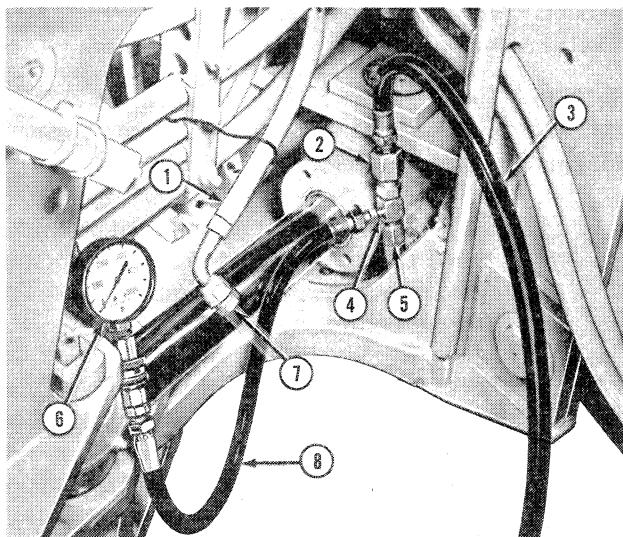

Figure 24
4. To check the R.H. swing cylinder cushion valve, as viewed from the operator's seat, disconnect the L.H. swing cylinder hose (1), Figure 24, at the rod end port of the L.H. swing cylinder. Cap the hose as shown. Install the elbow (5), Tool No. 0113 and connect the N1100-W fitting (4) to the elbow. Connect the gauge (6) and hose assembly (8) to the fitting (4). Connect the N1100-HS hose (3) to the fittings with the CR11 swivel connector (2).